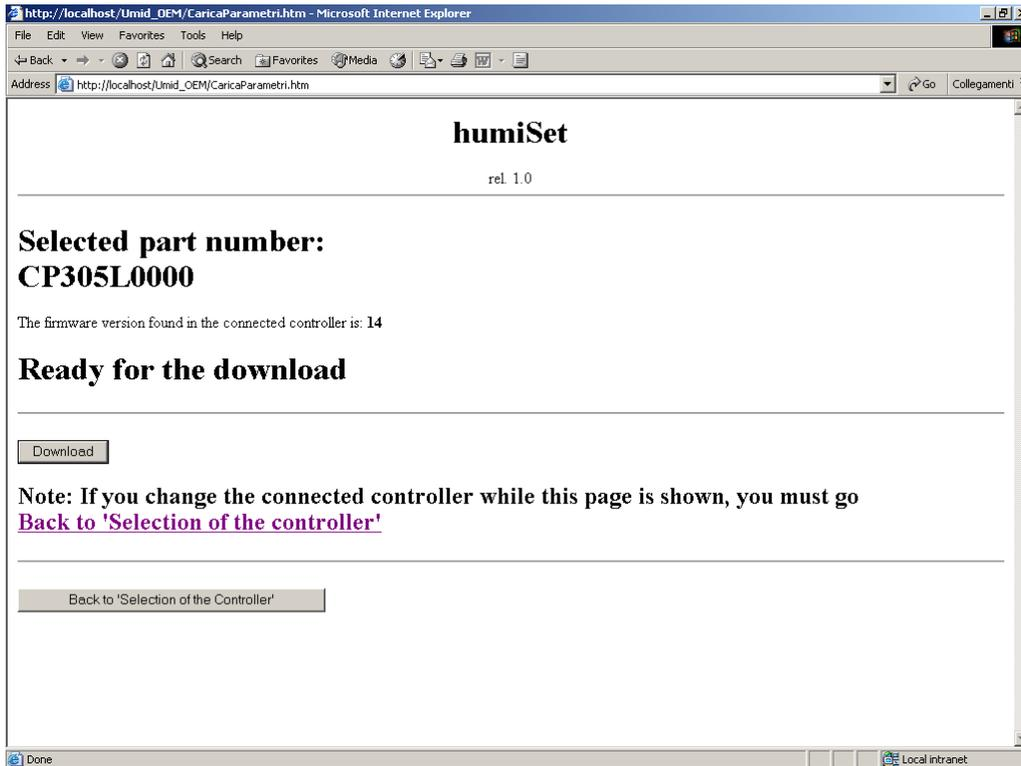

Figure 35
- If the consistency is confirmed, then a window indicating that everything is ready for parameter downloading will be displayed (Figure 35):
Once page “Ready for the download” (Figure 35) is displayed, press “Download” to continue. Great attention must be given to the fact that the controller must not be replaced while this page is displayed, either before or after pressing Download. Otherwise, the programming might be affected by errors that are not detected by **humiSet**. If the controller has to be replaced before pressing “Download”, you must necessarily press “Back to ‘Selection of the Controller’”.